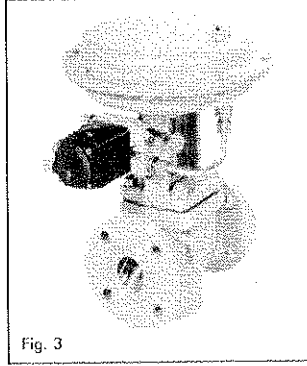

Fig. 3
- Attachment to linear actuators with NAMUR rib, e. g. SAMSON's Type 271 Actuator (see Fig. 3)